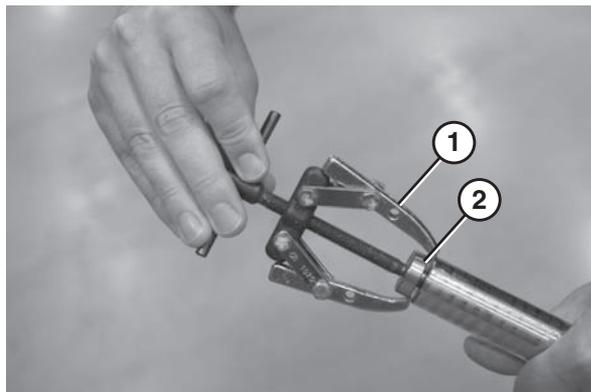

Figure 93
3. Using a bearing removal tool (Figure 93, item 1) remove the bearing (Figure 93, item 2).